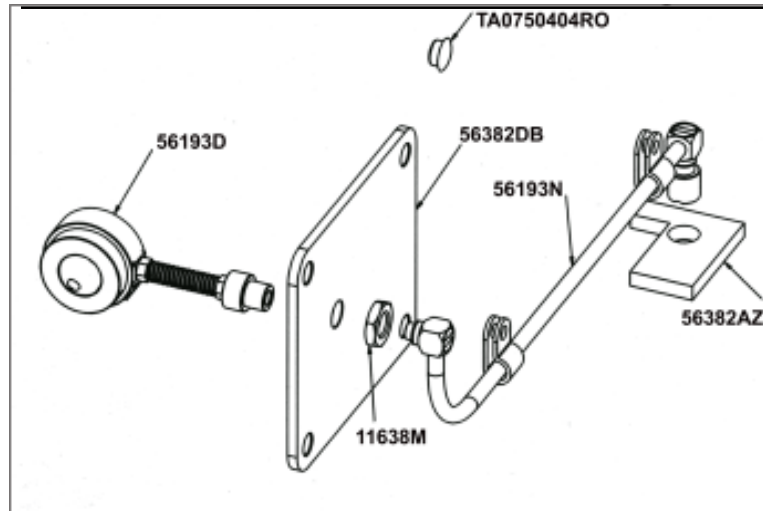

Fig 5
- 1) Locate New pump assembly 29480BFD (fig 5)